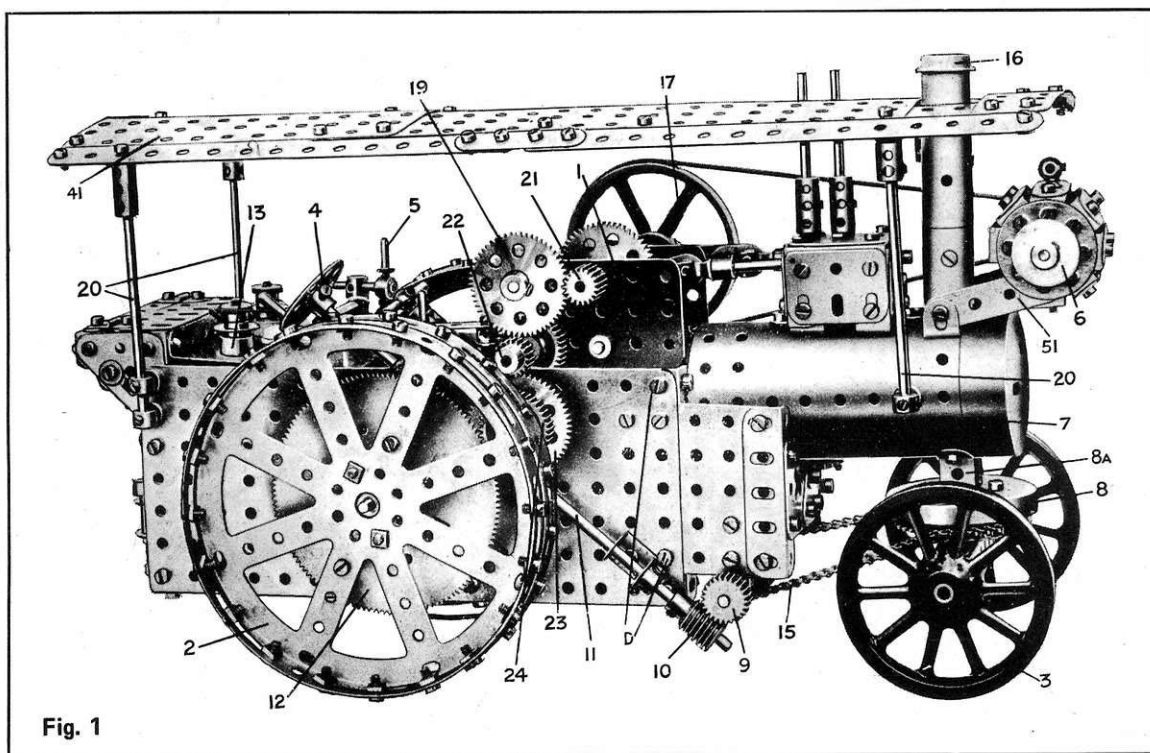
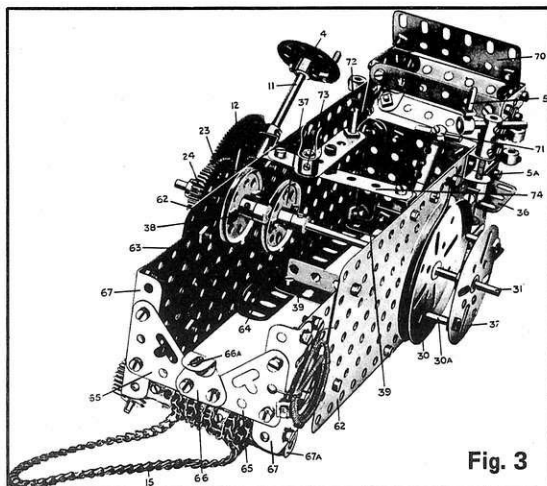

Fig. 1
Fig. 3
Fig. 1, opposite page, a general view of the circa 1930 S.M.L. No. 22 Meccano Traction Engine. Fig. 3, left, the main frame, showing control handles and rear axle complete with reinforced bearings (37). All illustrations in this feature are direct reproductions from the original Super Model Leaflet.
When this stage of construction has been reached, the Motor unit can be secured to the rear portion of the model by bolts passed through Angle Girders 57 of the Motor unit and into the end holes of frame Plates 62, as shown at 'D' in fig.1. The lower surface of the Boiler is bolted to Angle Bracket 66a and the two units are thus held securely in position.